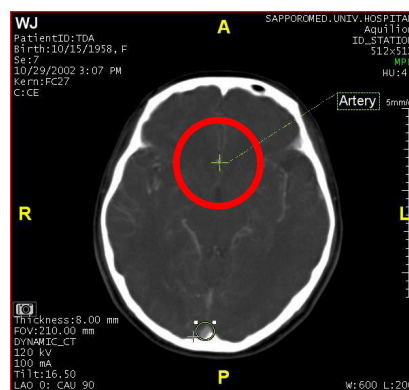

Figure 9-19 Location of the ACA in the brain.
5. Left-click on the center of the region of interest (ROI) For brain perfusion studies, the anterior cerebral artery or ACA is recommended. The ACA is located at the position shown in Figure 9-19. Repeat this step for each phase in the series.